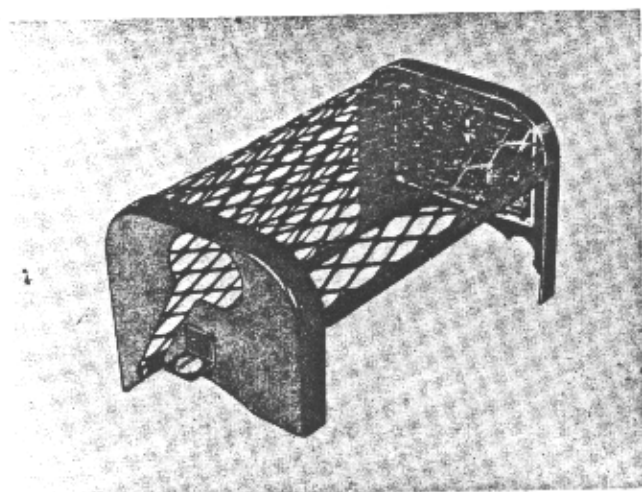

Figure 15—Protective Cover
1. A heavy mesh protective cover (Figure 15) is secured to the top of the heater case by means of two Dzus fasteners. This cover protects the heater components located